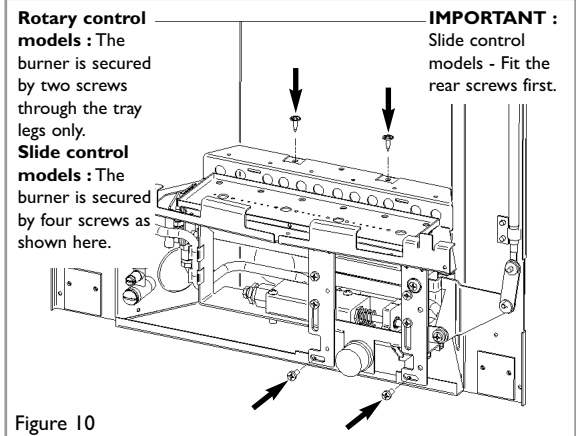

Figure 10
**Slide control models :** Fit the four securing screws - **two through the tray rear first** and then two through the legs of the tray to secure the assembly - see figure 10. Reconnect the slide mechanism by replacing the M4 nut and serrated washer on the assembly.